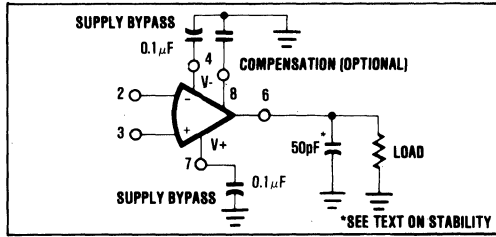

FIGURE 1. Compensated Amplifier with Supply and Load Bypassing.
1. Capacitance values shown are external compensation from pin 8 to COMMON. See Figure 1.
The frequency response of the OPA12HT can be adjusted by use of an external compensation capacitor from pin 8 to common, as shown in Figure 1. The open loop
Because the OPA12HT is an extremely fast amplifier with high gain, stray wiring capacitance, and inductance in power supply leads can cause circuit oscillation. This can be prevented by proper circuit layout (all leads or patterns as short as possible) and by properly bypassing the power supply lines to common at points close to the amplifier. In addition, it is recommended that the load be bypassed by a 50pF capacitor. (see Figure 1).